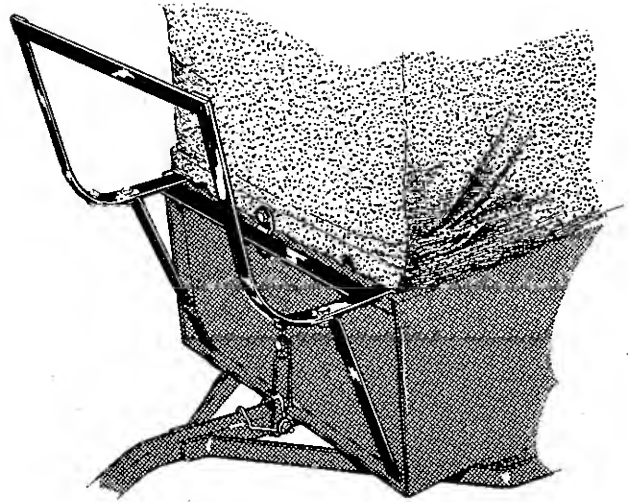

FIGURE 17
4. The storage rack is assembled and hung onto the front of the cart as shown. No hardware for mounting is required. (See Figure 17)